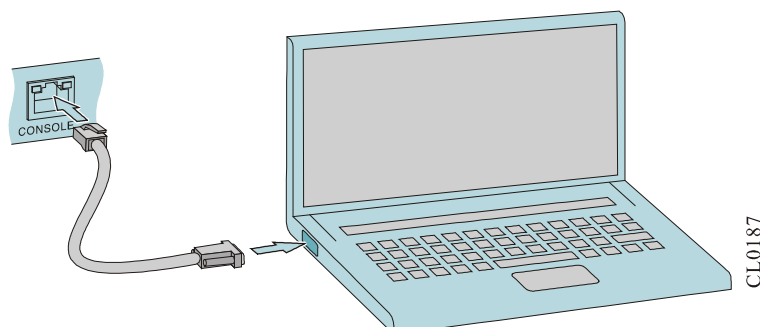

Figure 4-1 Connect the switch and PC through the RS-232 serial port
- The configuration cable for RS-232 serial port (random distribution) is an 8-core unshielded cable, one end is a crimped RJ-45 plug, which is inserted into the Console port of the switch. The other end has a DB-9 (hole), which can be inserted into the 9-core (pin) serial socket of the PC (or laptop), as shown in Figure 4-1.